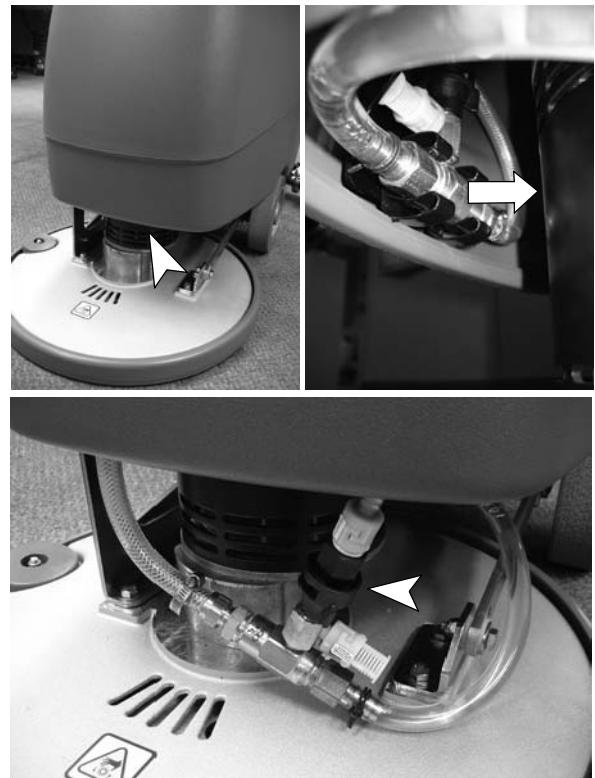

FIG. 48
1. To access the orifice plate and filter, lower the scrub head and remove the injector assembly from the clamps located behind the front edge of the machine (Figure 48).